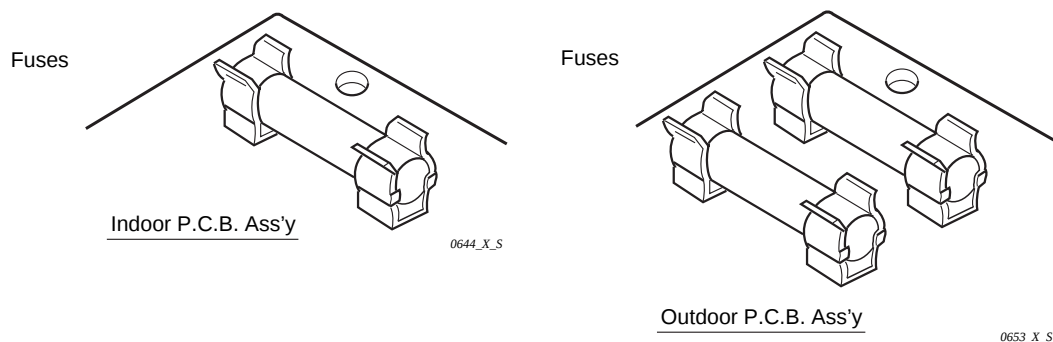

Fig. 31
⑩ **Fuse on indoor and outdoor P.C.B. Ass'y Both in indoor and outdoor unit**
- Remove the P.C.B. Ass'y from the electrical component box. Then pull out the fuse from the P.C.B. Ass'y. **(Fig. 31)**